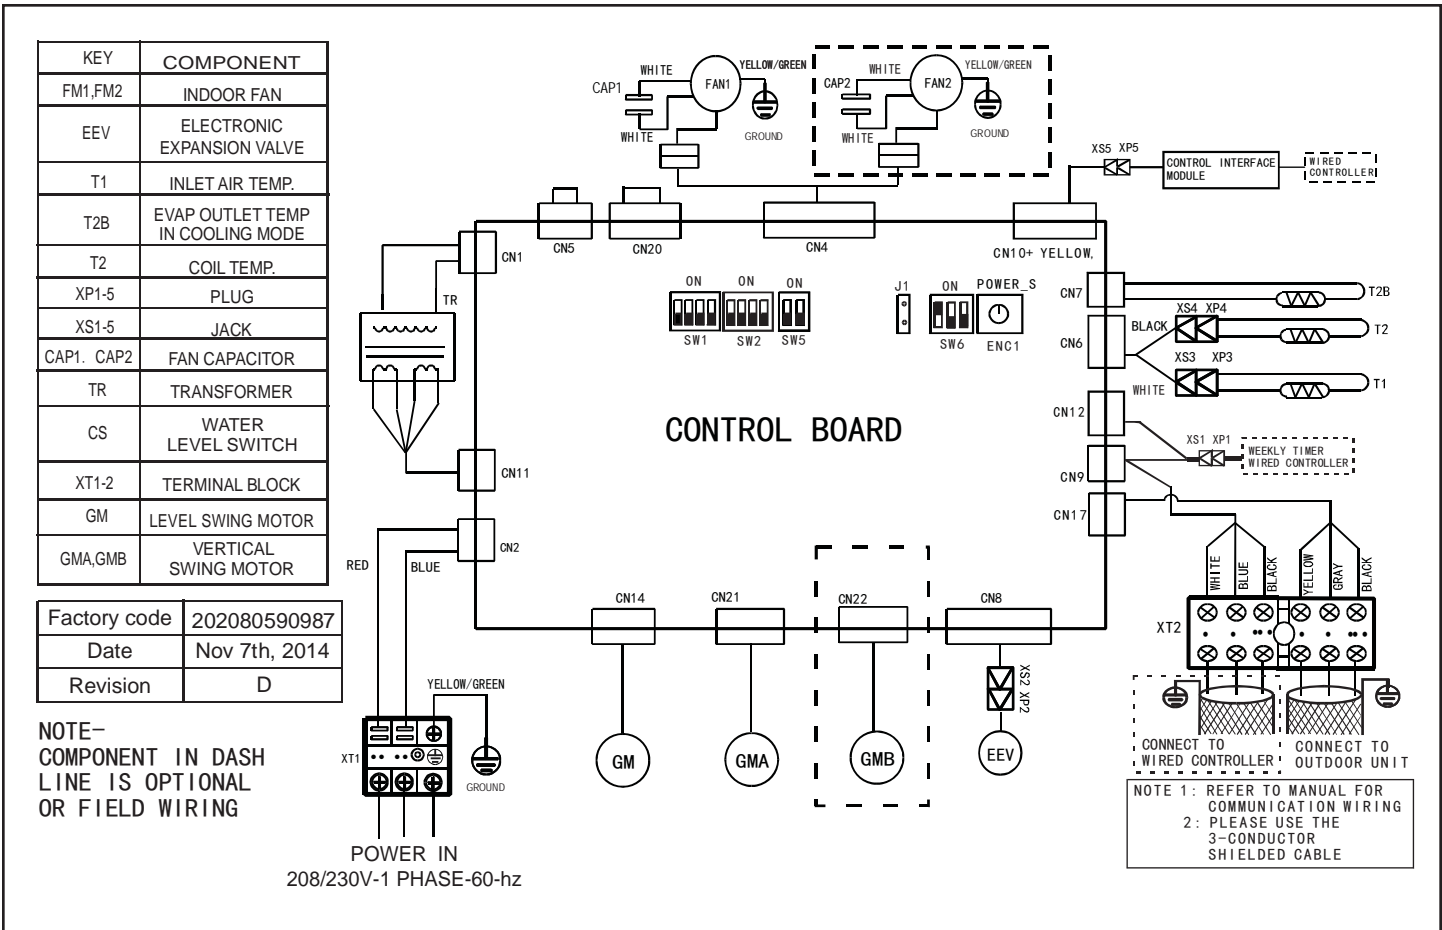

Figure 12. VCFA012-48 Wiring Diagram
6. Locate the terminal strip in the control box. Connect the power wiring (sized per NEC/CEC and local codes) and communications cable (three-conductor shielded cable) per figures 12 and 13. Refer to unit nameplate for rated voltage.